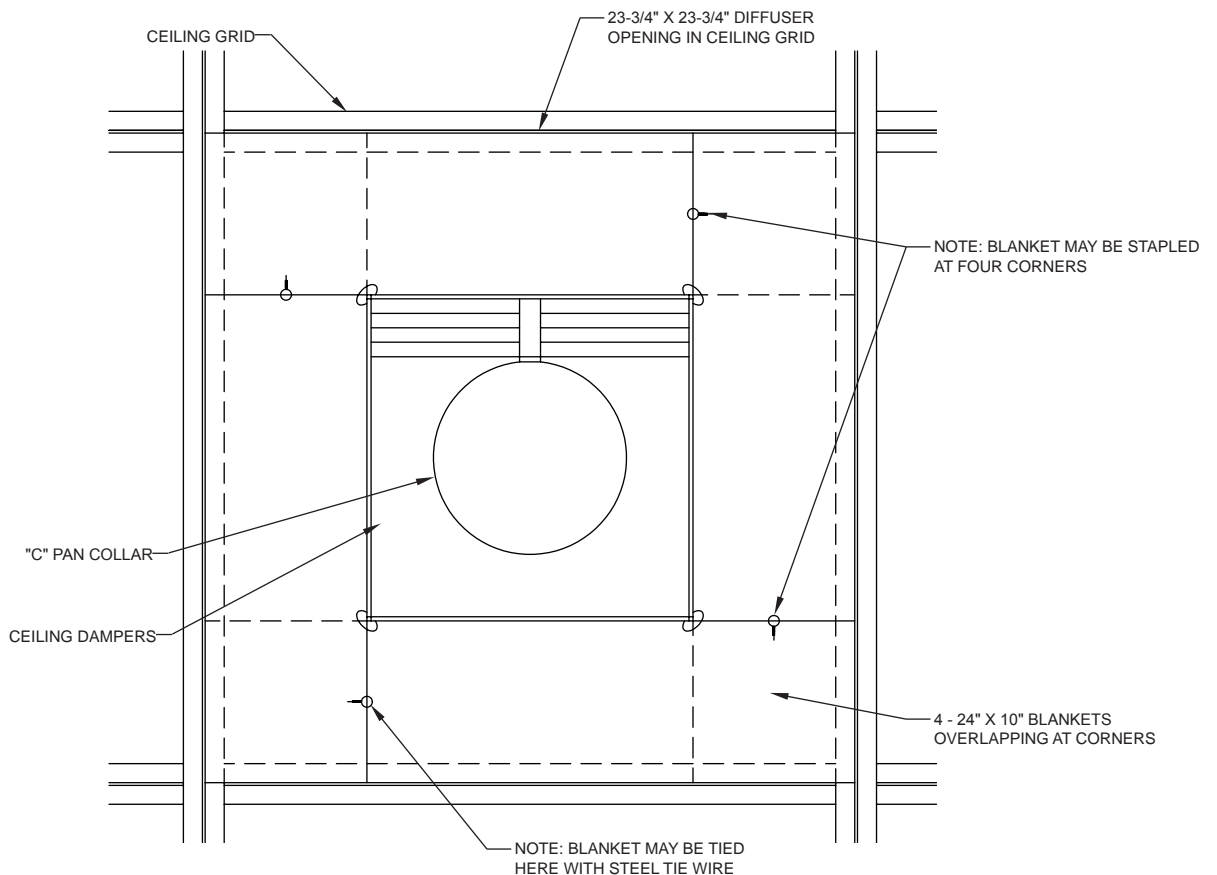

FIG. 5
5. The TB5000 (#5 above) shall be cut into four 10" x 24" pieces and placed over the top of the diffuser housing against the web of the suspension system tees, as shown on the enclosed sketch (plan view, **FIG. 5**). The pieces of blanket must cover the entire area of the diffuser housing and be tied together at the overlaps near the corner of the duct drop with steel tie wire (#3 above), or staples may be used at the four corners (plan view, **FIG. 5**); this is to insure that they will not come apart or slide down and expose the diffuser housing when subject to periodic vibrations over extended periods of time.